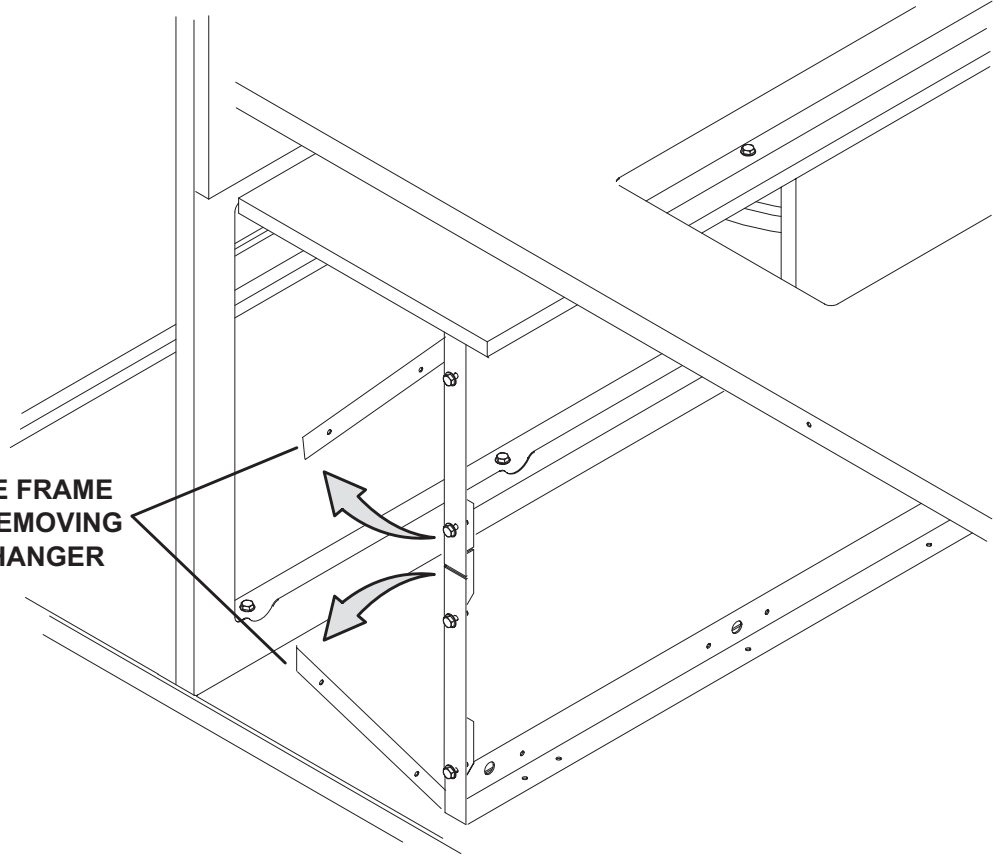

FIGURE 12
- 9 - Remove screws securing heat exchanger to unit. Rotate two parts on the front side of the frame and remove heat exchanger. See FIGURE 12.